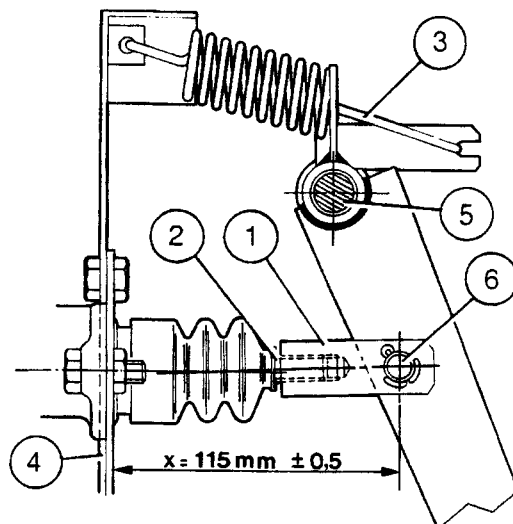

Fig. 7
1. Coat the pins (5) and (6) with molybdenum bisulphide (Fig. 7).
2. Apply Loctite 542 on the threads on clevis (1) and screw it onto the rod (2).
3. Fit the return spring (3).
4. Adjust the clevis (1) in order to obtain a distance X of $115 \text{ mm} \pm 0.5$ between the support (4) and the clevis attaching pin.